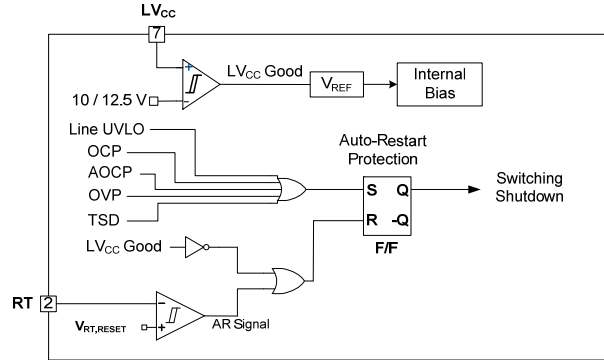

Figure 24. Protection Blocks
5. Protection Circuits: The FSFR-HS series has several self-protective functions; such as Over-Current Protection (OCP), Abnormal Over-Current Protection (AOCP), Over-Voltage Protection (OVP), Thermal Shutdown (TSD), and Line Under-Voltage Lockout (LUVLO or Brownout). These protections are Auto-Restart Mode protections, as shown in Figure 24.